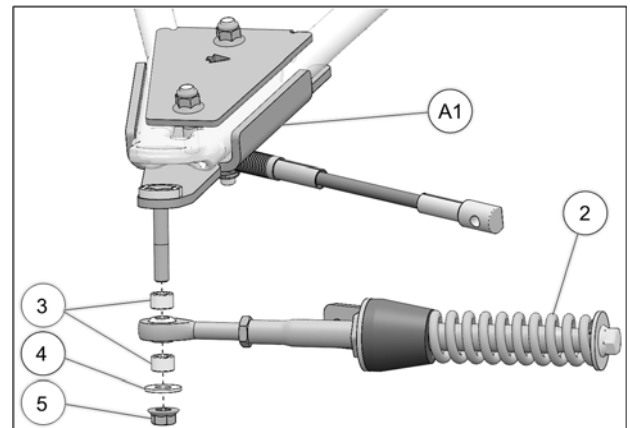

Fig. 25
14. Attach the stabilizing rod (2) to the anchor bracket (A1), using the two spacers (3), washer (4), and nut (5). Torque to 70 N•m [52 lb•ft]. Refer to Fig. 25